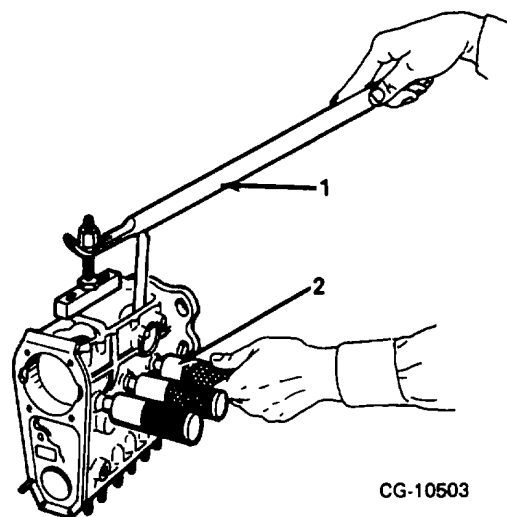

Figure 26. Tappet Removal
27. While pushing on tappets screw knurled handle of tappet holder in until it pops out (Figure 26). Hold on to holder when depressing tappets because foot of holder is spring loaded and toll will spring out.